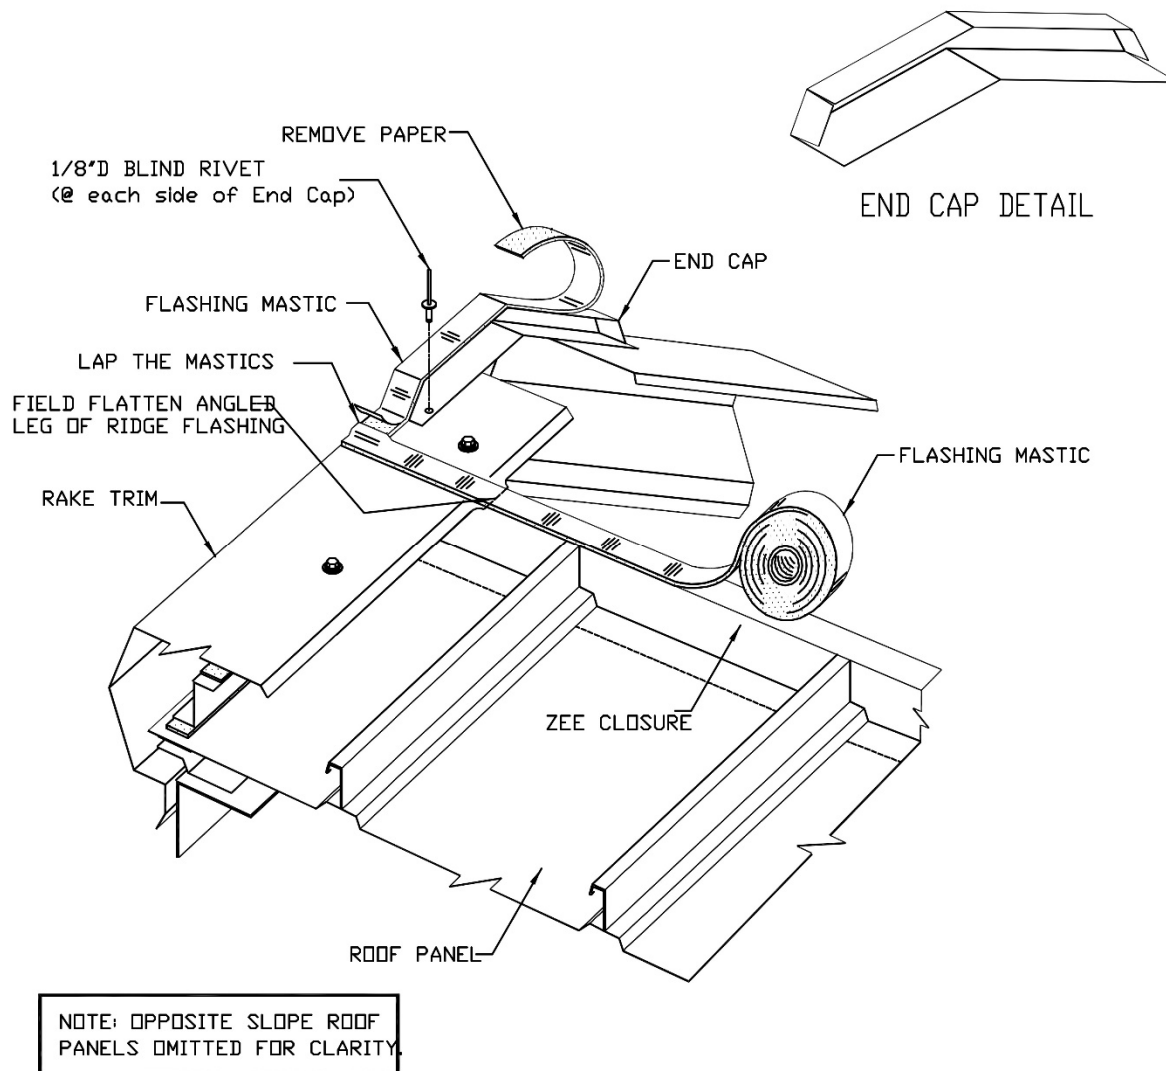

Figure 55 - End Cap Installation
Position the end cap so its face is flush with the face of the rake trim. Fasten the end cap to the rake trim with (2) blind rivets as shown in Figure 55. Install the flashing mastic on top of the end cap as shown. Align the edge of the mastic flush with the face of the end cap and extend the mastic to align with end dams.